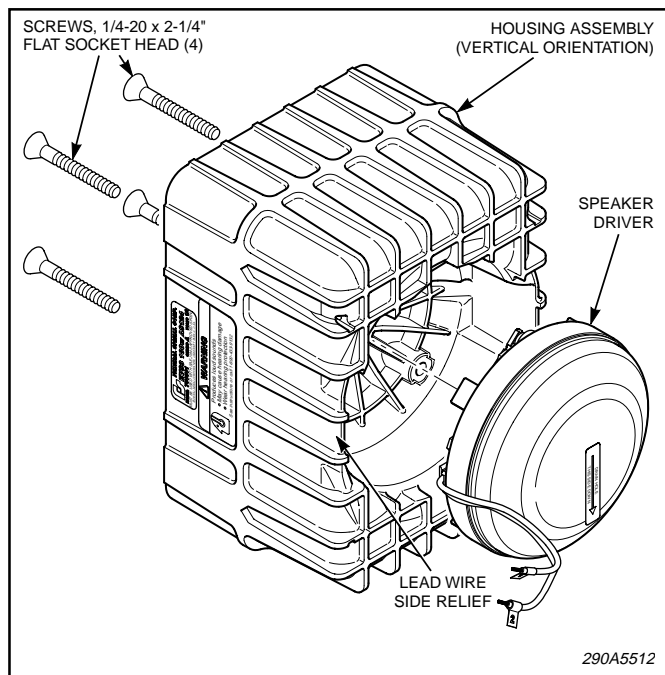

Figure 1.
- d. See figure 1. Reinstall the driver into the housing assembly so the label maintains its downward positioning and the lead wires exit at one of side reliefs. Secure the driver to the housing using the previously removed screws.